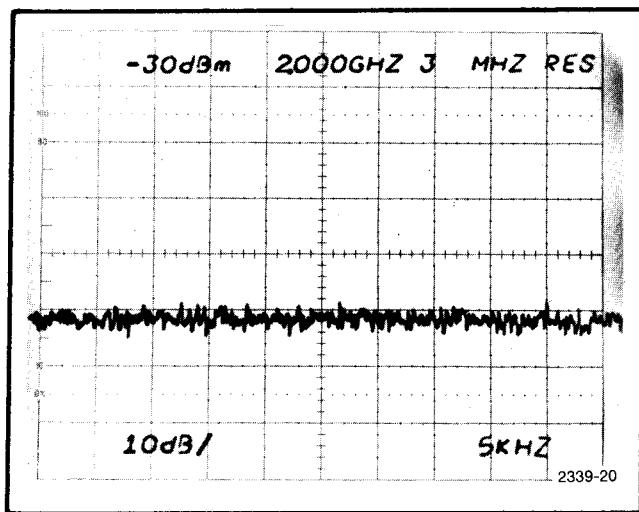

Fig. 4-6. Measuring Average Noise Level as an Indication of Sensitivity.
c. Check—noise level below the  $-30 \text{ dBm}$  reference level (see Fig. 4-6). Must not exceed  $-79 \text{ dBm}$  (see Table 4-5).